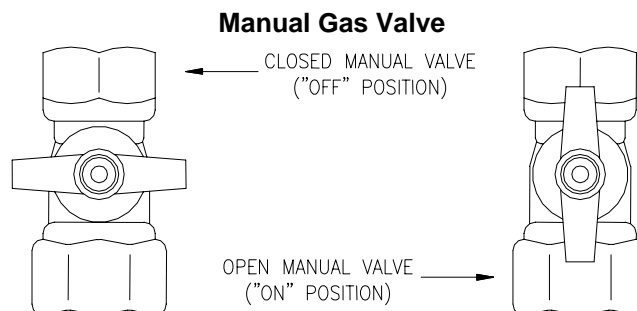

Figure 47
<p>1. STOP! Read the safety information above before proceeding.</p> <p>2. Set the thermostat to the lowest setting.</p> <p>3. Turn off all power to the electrical appliance.</p> <p>4. This appliance does not have a pilot. It is equipped with a direct ignition device, which automatically lights the burner. Do not try to light the burner by hand.</p> <p>5. Turn the manual valve located at the gas inlet of the appliance clockwise ↻ to "OFF" (see Figure 47).</p>	<p>6. Wait (5) minutes to clear out any gas. If you then smell gas, STOP! Follow "B" in the safety information above on this label. If you don't smell gas, go to next step.</p> <p>7. Turn the manual valve located at the gas inlet of appliance counterclockwise ↺ to "ON" (see Figure 47).</p> <p>8. Turn on all electric power to the appliance.</p> <p>9. Set the thermostat to desired setting.</p> <p>10. If the appliance will not operate, Follow the instructions "To Turn Off Gas To Appliance" and call your service technician or gas supplier.</p>
<p>1. Set the thermostat to the lowest setting.</p> <p>2. Turn off all electric power to the appliance if service is to be performed.</p>	<p>3. Turn the manual valve at gas inlet of appliance clockwise ↻ to "OFF" (see Figure 47).</p>